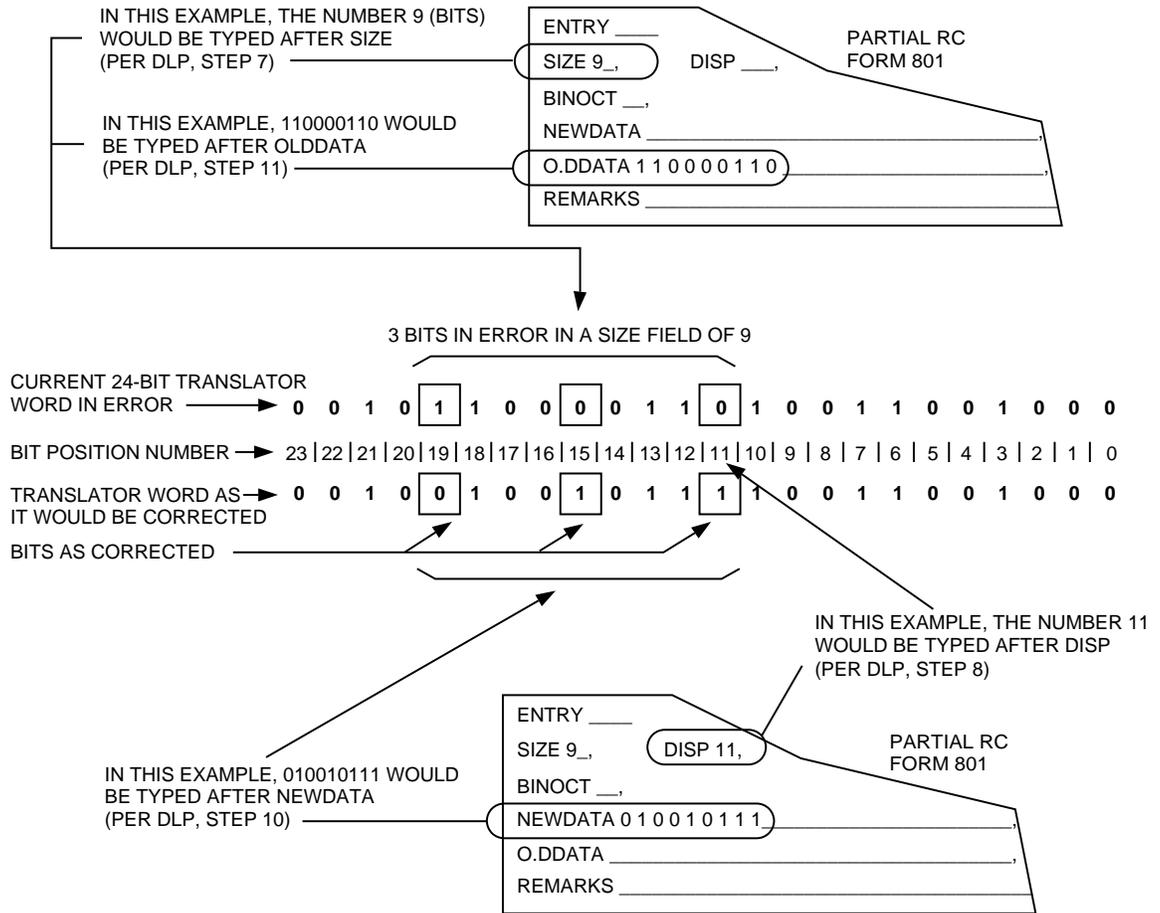

Figure 1. Functional Word Change Example
7. Determine the quantity of consecutive bits which span all bits requiring change in this Unit Type translator word (see example in Figure 1). At `SIZE`, enter this **decimal** number.
8. Determine the bit position number (range 0 to 23) identifying the rightmost of the consecutive bits determined in Step 7 (see example in Figure 1). At `DISP`, enter this bit position number.
10. Determine the binary bits to be inserted into the Unit Type translator word to correct that word (see example in Figure 1). At NEWDATA, enter these binary bits.
11. At OLDDATA, enter the current binary of only that portion of the Unit Type translator word requiring change (see example in Figure 1).